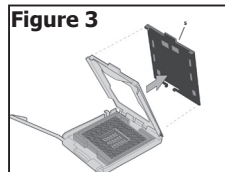

Figure 3
3. Remove the plastic protective socket cover from the load plate (see Figure 3, 5). Do not discard the protective socket cover. Always replace the socket cover if the processor is removed from the socket.